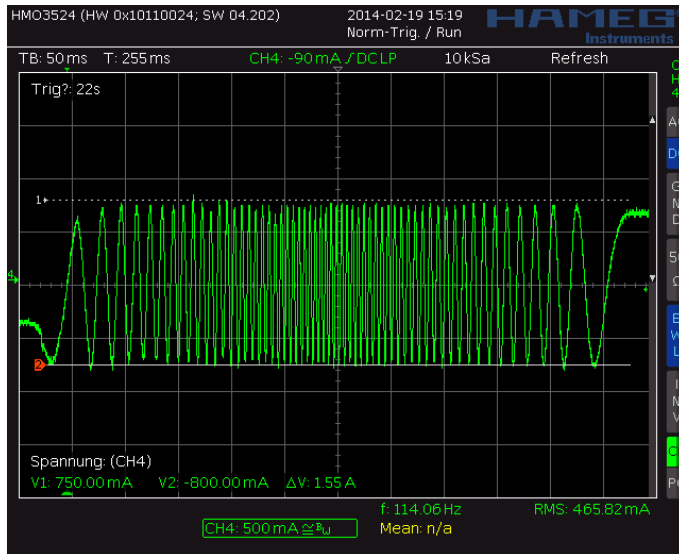
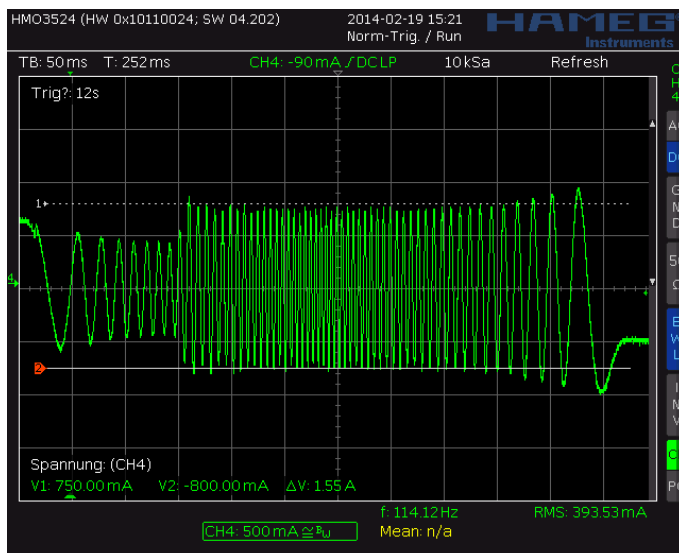
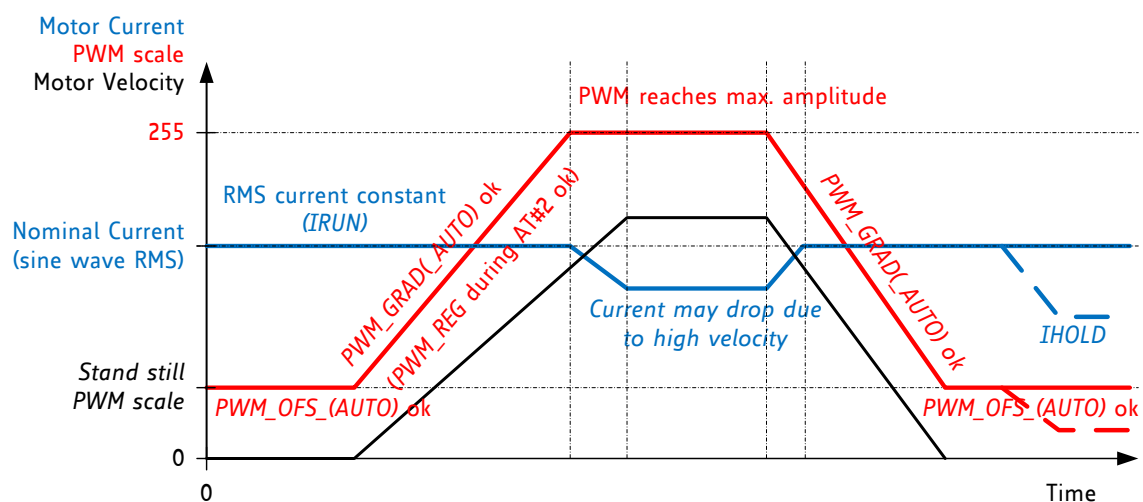

Figure 6.3 Scope shot: good setting for PWM_REG
Figure 6.4 Scope shot: too small setting for PWM_REG during AT#2
Figure 6.5 Successfully determined PWM_GRAD(_AUTO) and PWM_OFS(_AUTO)
In StealthChop voltage PWM mode, the autoscaling function ($pwm_autoscale = 1$, $pwm_autograd = 1$) regulates the motor current to the desired current setting. Automatic scaling is used as part of the automatic tuning process (AT), and for subsequent tracking of changes within the motor parameters. The driver measures the motor current during the chopper on time and uses a proportional regulator to regulate PWM_SCALE_AUTO in order match the motor current to the target current. PWM_REG is the proportionality coefficient for this regulator. Basically, the proportionality coefficient should be as small as possible in order to get a stable and soft regulation behavior, but it must be large enough to allow the driver to quickly react to changes caused by variation of the motor target current (e.g. change of VREF). During initial tuning step AT#2, PWM_REG also compensates for the change of motor velocity. Therefore, **a high acceleration during AT#2 will require a higher setting of PWM_REG** . With careful selection of homing velocity and acceleration, a minimum setting of the regulation gradient often is sufficient ($PWM_REG=1$). PWM_REG setting should be optimized for the fastest required acceleration and deceleration ramp (compare Figure 6.3 and Figure 6.4). The quality of the setting PWM_REG in phase AT#2 and the finished automatic tuning procedure (or non-automatic settings for PWM_OFS and PWM_GRAD) can be examined when monitoring motor current during an acceleration phase Figure 6.5.